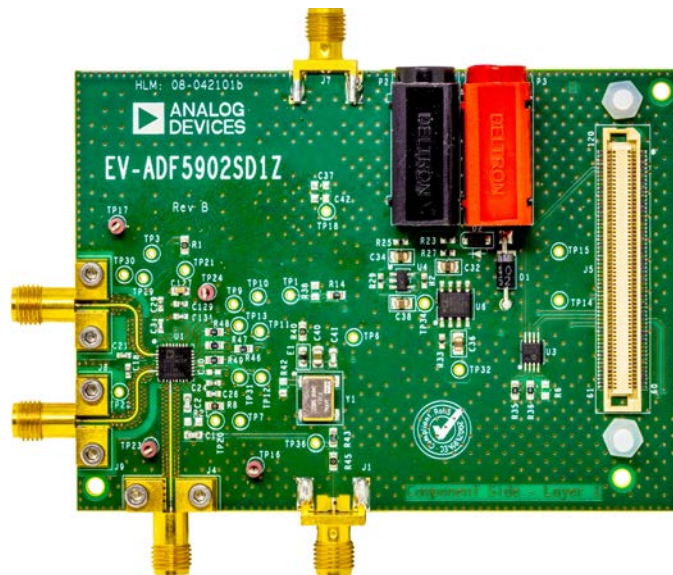

Figure 1.
The EV-ADF5902SD1Z evaluation board allows the user to evaluate the performance of the **ADF5902** 24 GHz voltage controlled oscillator (VCO) programmable gain amplifier (PGA) with a 2-channel power amplifier (PA) output and ramping phase-locked loop (PLL). Figure 1 shows the EV-ADF5902SD1Z evaluation board, which contains the **ADF5902**, three high frequency K type Subminiature Version A (SMA) connectors for the local oscillator (LO) output, two transceiver outputs, banana connectors for the power supply, and a connector for the serial interface.